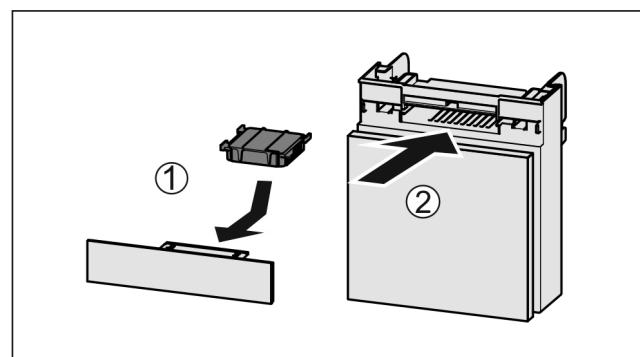

Fig. 129
- Insert the carbon filter as shown in the diagram Fig. 129 (1).
► Push the compartment in Fig. 129 (2).